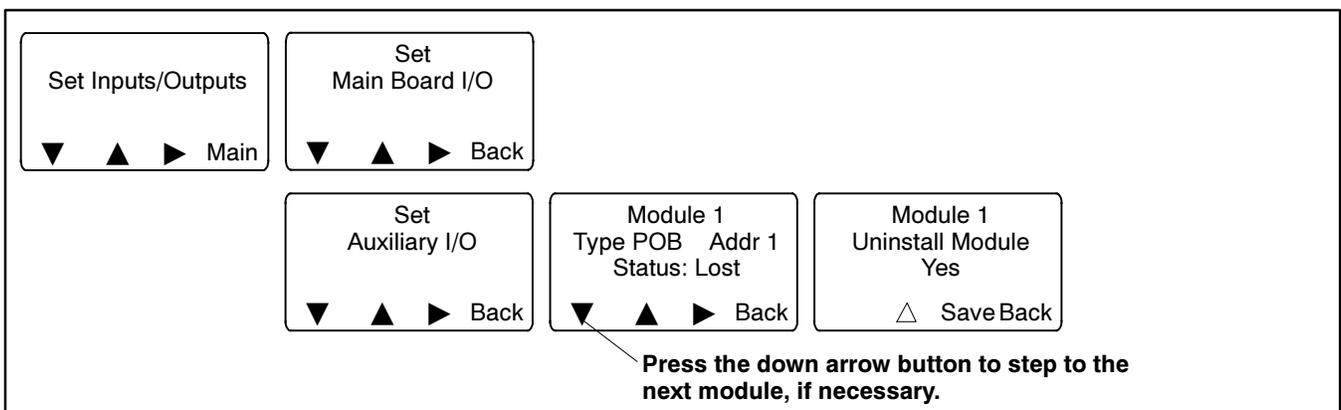

Figure 3-24 Uninstall Module
5. Navigate to the Set Auxiliary I/O screen. See Figure 3-24. Press the right arrow button to see the status of module 1. Press the down arrow to step to the next module, if necessary, until the screen shows Status: Lost.
10. Navigate to the Set Auxiliary I/O screen to check the status and settings for the new module. See Figure 3-24. Press the right arrow button to see the status of module 1. Press the down arrow to step to the next module, if necessary,